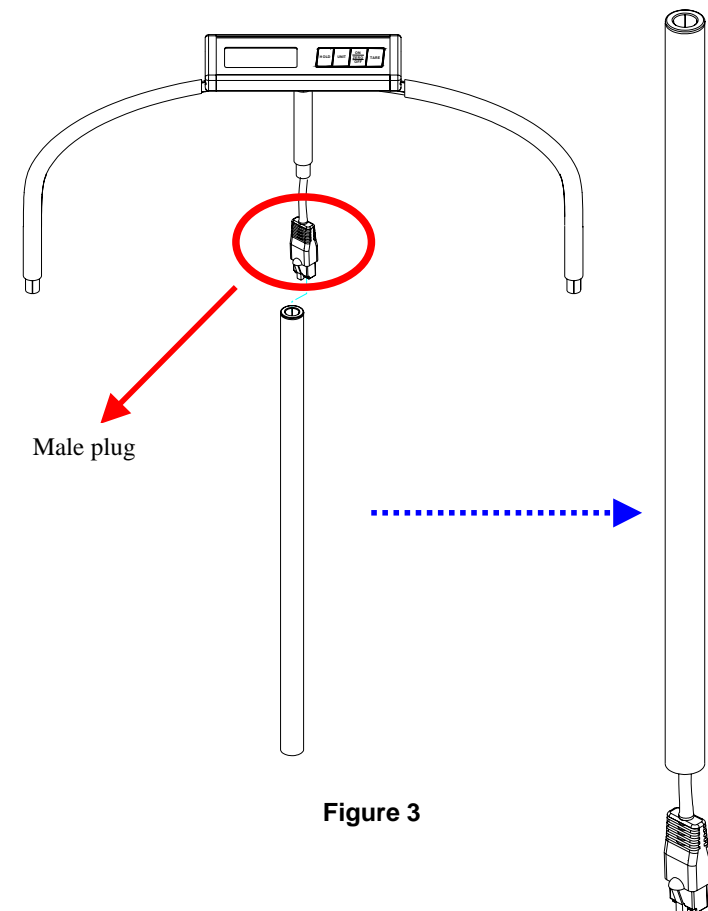

Figure 3
3. Insert the male plug into the stainless steel stick, which will be screwed into the hole between the two sides of holes of platform. See figure 3.